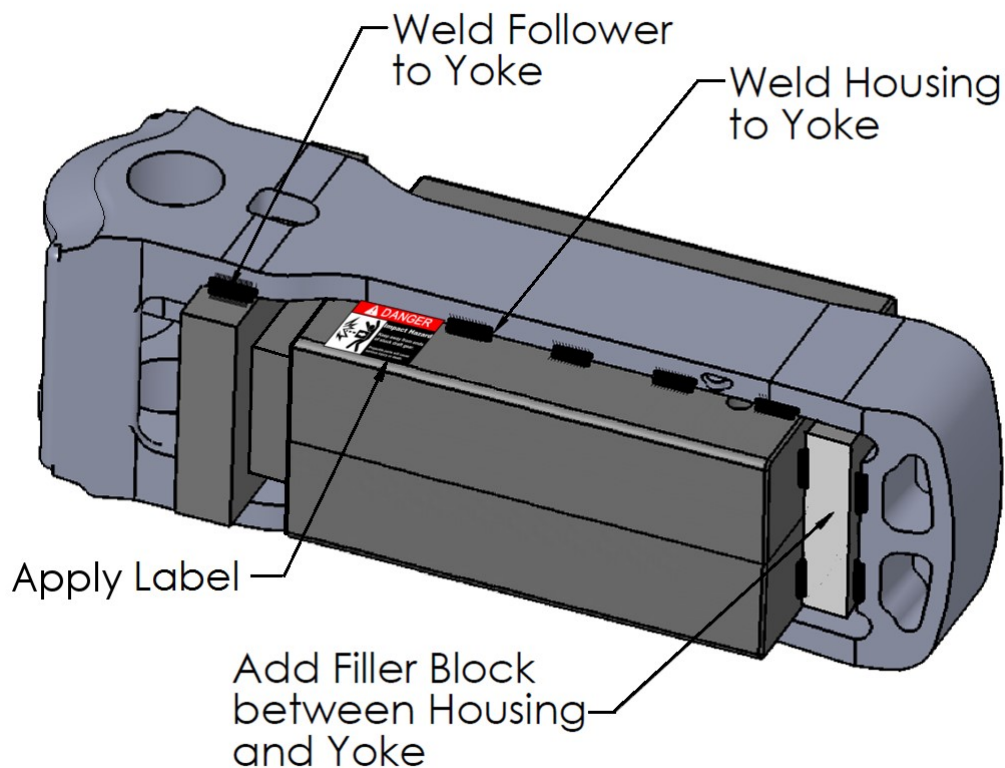

Figure 3.2.11: Weld Locations
3.2.11 Add a steel spacer block behind draft gear housing to firmly restrict expansion of gear (Fill gap between yoke butt and draft gear rear wall). Add additional shims or filler blocks to take up any longitudinal space. Weld movable parts to the yoke and securely restrain the draft gear from expanding. See Figure 3.2.11 for suggested weld locations and restraining details.
3.2.14 Print out copies of the Danger Label, figure 3.2.14, and apply as shown in figure 3.2.11 following OSHA standards. Insure that the label is readable and adequately attached.
3.2.15 Only after the draft gear is firmly secured to the yoke and containment components with the front and back of the draft gear solidly supported and secure, and the gear is labeled as shown in figure 3.2.11, should the gear be considered safe for transport or proper disposal.